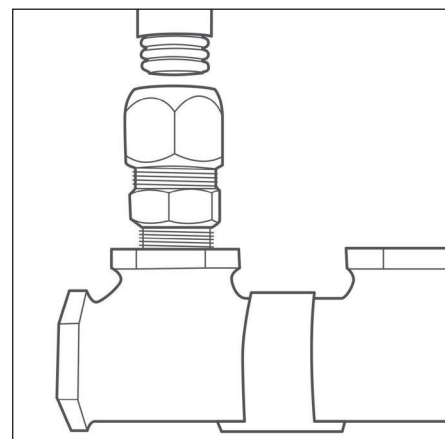

Figure: 4-7
- NPT CONNECTION:** For couplings, skip this step. For straight fittings, connect the NPT threaded end to the termination point, i.e., manifold or appliance, using thread sealant. Tighten fitting to the termination point using an adjustable wrench on the body hex only (**Figure 4-7**). **Do not make this connection by tightening the nut, or the assembly of the fitting to the pipe will not be possible without disassembly and reassembly of the fitting components.**